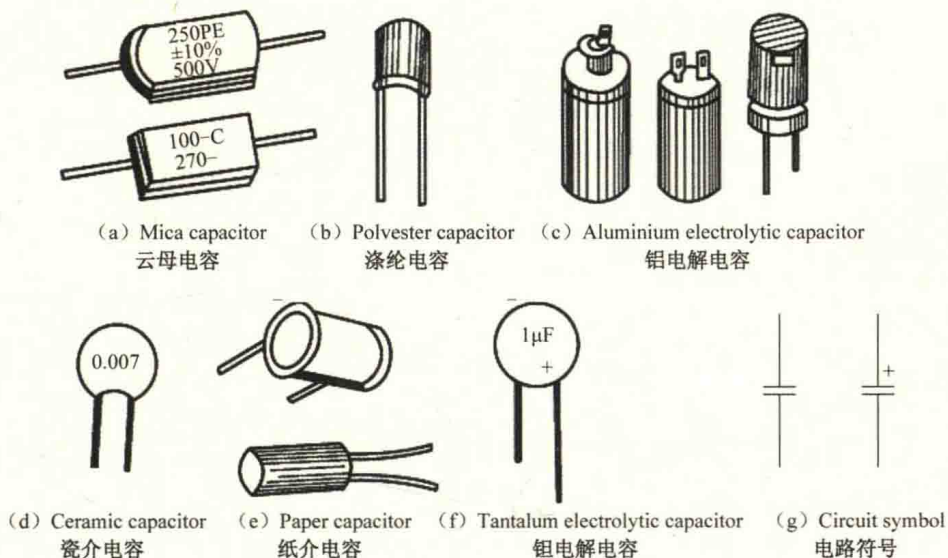

Figure 1.9 Common Various Types of Capacitors 常见电容外形
1) Fixed Capacitor 固定电容 (Figure 1.9, Table 1.1)